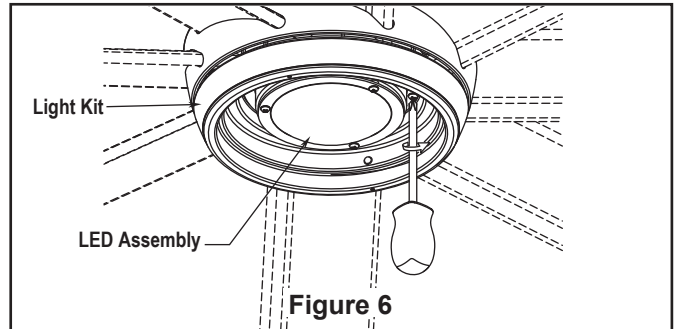

Figure 6
- ☐ 6. Assemble the LED assembly to the light kit using the two key slots. Replace the removed screw from Step 3 and secure all three screws. (Figure 6)
- ☐ 8. Replace battery cover on the remote control and secure with the previously removed screw. (Figure 6)